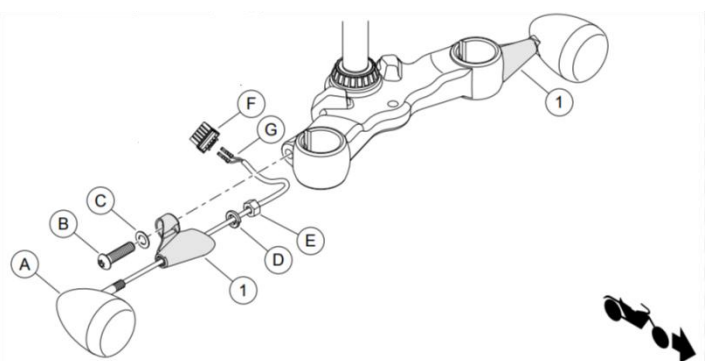

Figure 1. Service Parts: Front Turn Signal Relocation Kit - XL1200X
2. See Figure 1. Remove connector housing (F) from turn signal assembly harness. Note terminal (G) locations. See the service manual.
3. Remove right front turn signal assembly from original equipment (OE) location. See the service manual. Retain all mounting hardware. Note turn signal harness routing.
4. Remove nut (E), washer (D), and turn signal assembly (A) from OE turn signal mount.
7. See Figure 1. Route the turn signal assembly terminals (G) and wiring through the turn signal mount (1).